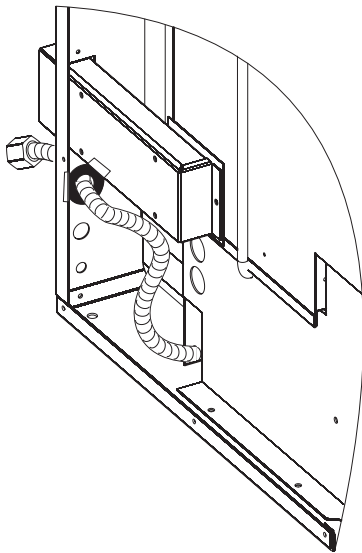

Figure 54 - Fireplace Mantis
1. Pull the factory installed flexible gas line through the hole in the back panel. See Figures 54 and 55.